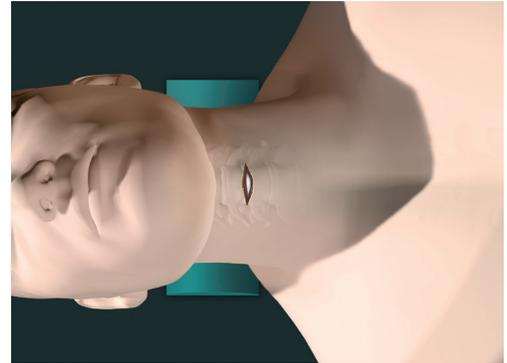

Figure 2
- ▲ Locate the correct operative level under fluoroscopic guidance. Make a skin incision and dissect to the appropriate level. Expose the intervertebral disc and the adjacent vertebral bodies through a standard anterior approach to the cervical spine (Fig. 2).